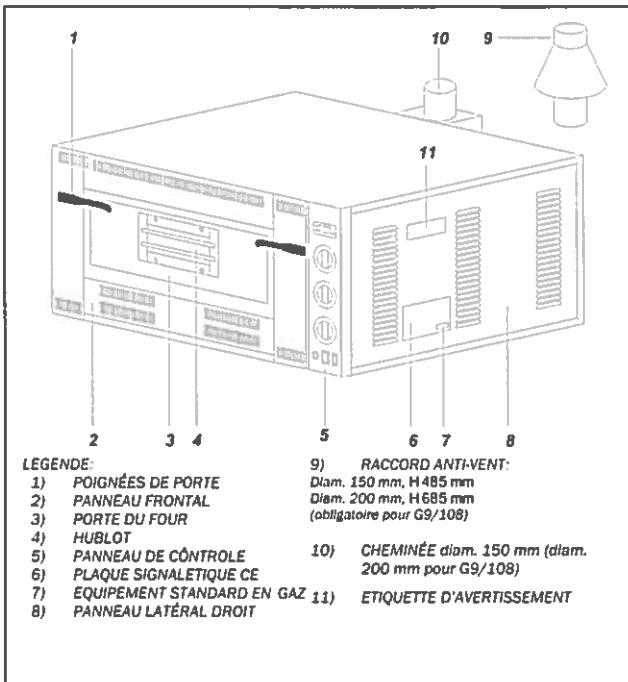

FIG.3 (DESCRIPTION COMPOSANTS)
- DÉVISSER LE PANNEAU FRONTAL (FIG.3-RÉF.2);
- DÉVISSER LE PANNEAU LATÉRAL DX (FIG.3-RÉF.8);
ENLEVER LE PANNEAU FRONTAL (FIG.3-RÉF.2); EN DÉVISSANT LES RACCORDS SPÉCIAUX DE BRANCHEMENT DÉSSASSEMBLER LES CANALISATIONS DU GAZ QUI SE TROUVENT DEVANT LES BRÛLEURS À REMPLACER;
- 1) OUVRIR MANUELLEMENT LA PORTE DU FOUR (FIG.3-RÉF.3) PAR LES POIGNÉES SPÉCIALES (FIG.3-RÉF.1);